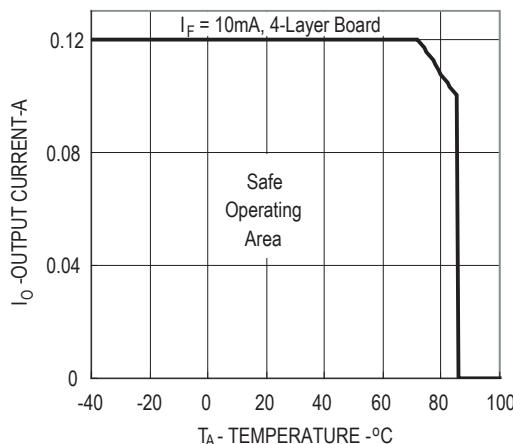

Figure 1. Maximum Output Current Rating vs Ambient Temperature
- For derating, refer to Figure 1, 2, 3 and 4.
Figure 1, 2, 3 and 4 specify the maximum average output current allowable for a given ambient temperature. The maximum allowable output current and power dissipation are related by the expression $R_{ss} = P_o(\text{max}) / (I_o(\text{max}))^2$ from which R_{ss} can be calculated. Staying within the safe area assures that the steady state MOSFET junction temperature remains less than 125°C .